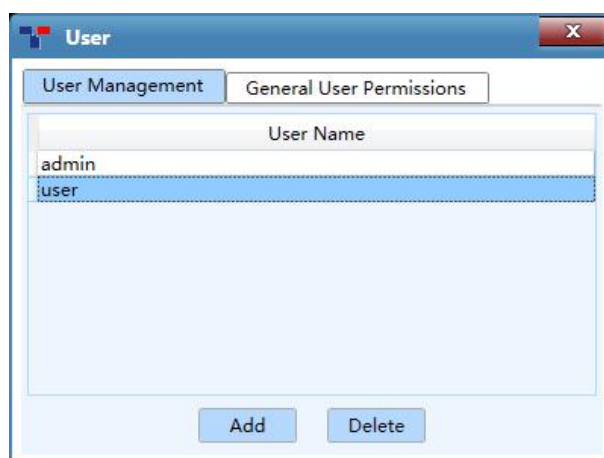

Figure D-3.7a User interface - User Management tab
2. **User**: click **User** option in the **Option** submenu and the application software will automatically pop up the user interface, as shown in figure D-3.7a.